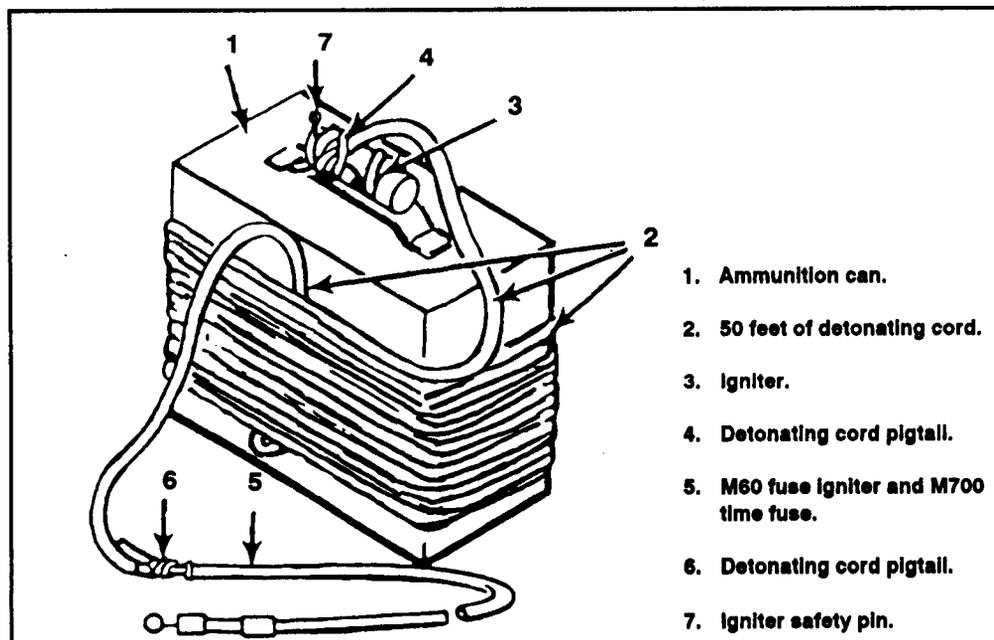

Figure C-18. Bunker bomb made from an ammunition can.
h. The bunker bomb (Figure C-18) is an expedient explosive flame weapon best used against fortified positions or rooms. This expedient munition should be used with a mechanical rather than an electrical firing system. The following materials are required to make a bunker bomb: